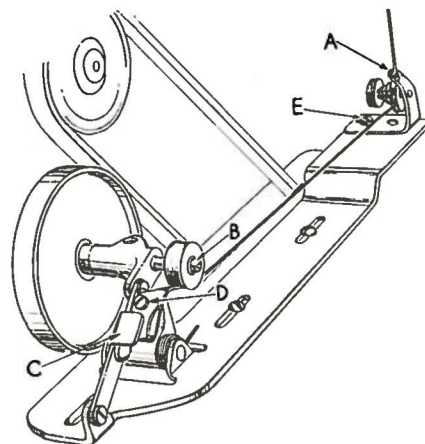

Fig. 4
Thread the bobbin winder by leading the thread from the supply down through the eyelet (A, Fig. 4), down between the tension discs, and under the tension post. Press an empty bobbin on the winder shaft (B) up to the stop, wind the end of thread around the bobbin a few turns in a clockwise direction and press downwardly on hand lever (C) until pulley is moved into contact with machine belt, and is locked in that position. When the machine is operated, the bobbin will be rotated and filled until the thread engages the automatic throw-out member, which disengages the pulley. The extent to which the bobbin is filled can be varied by the regulating screw (D).